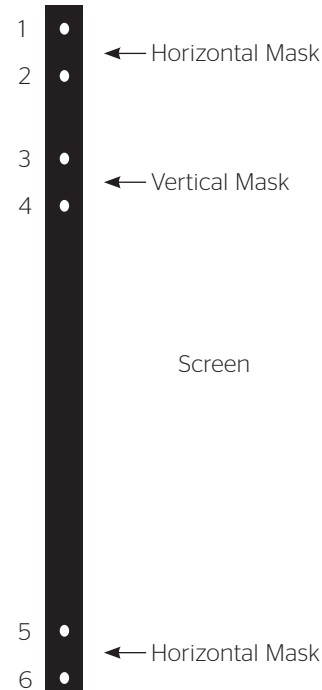

Figure 8
2. The limit switches are accessed through openings located on the left side of the frame as shown in Figure 8.
WARNING! The up limit switch(es) retract the batten further into the unit. Adjusting it is not advised. Refer to 1, 3 or 5 as appropriated in Figure 8.
AVERTISSEMENT! Le(s) interrupteur(s) de fin de course supérieur(s) rétracte(nt) la latte à l'intérieur de l'unité. Le réglage n'est pas recommandé. Référez-vous au points 1, 3 ou 5 tel qu'indiqué dans la figure 8.
2. Locate the down limit switch(es) located on the left side of the frame. Refer to 2, 4 or 6 as appropriate in Figure 8. Use an Allen wrench to turn the switch in a counterclockwise direction. If the power is on, the mask will drop incrementally as the switch is turned. **NOTE:** One complete turn of the switch will make approximately a 1/2" change in the mask's stop position.
2. Locate the down limit switch(es) located on the left side of the frame. Refer to 2, 4 or 6 as appropriate in Figure 8. Use an Allen wrench to turn the switch in a clockwise direction. **NOTE:** One complete turn of the switch will make approximately a 1/2" change in the mask's stop position.